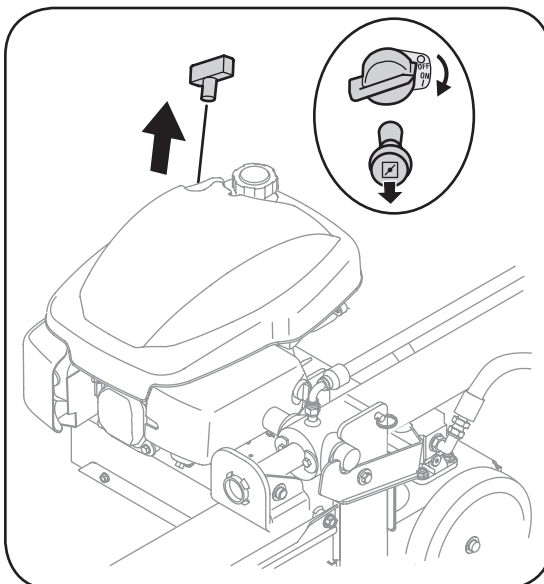

Figure 4-4
4. Pull out the choke knob located on the engine. See Figure 4-4 inset.
5. Turn engine switch to on. See Figure 4-4 inset.
6. Pull the starter grip lightly until resistance is felt, then pull rapidly to overcome compression, prevent kickback and start engine. See Figure 4-4. If engine does not start after ten seconds of repeated pulls, wait a few minutes and repeat.